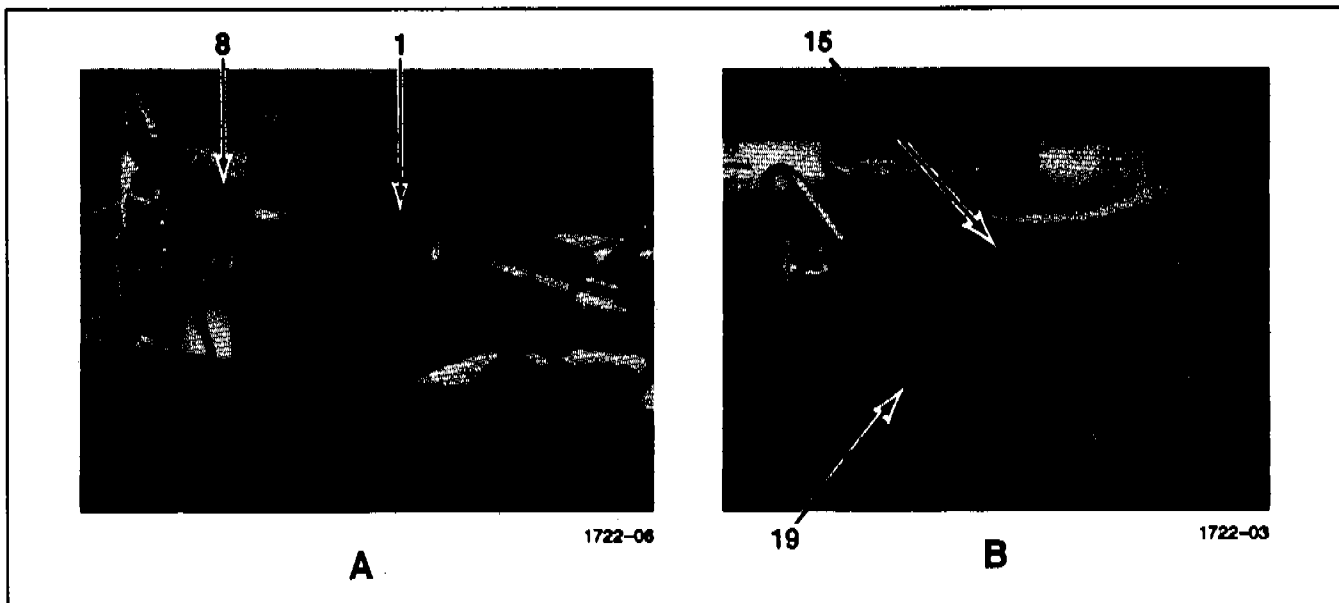

Figure 12
11. Install the appropriate optical filter (8) and the PMT assembly (1) as shown in figure 12. Install the extension spring (15) around the PMT assembly and route the high voltage and signal cables through the cable tie (19) as shown.